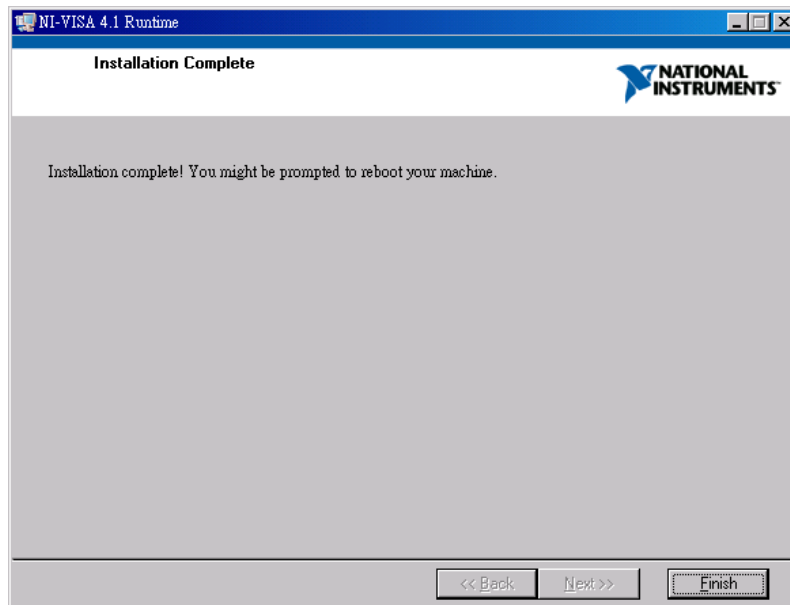

Figure 1-7 Installation Complete Screen
3. Follow the prompt message to click **Next >>** and complete the installation procedure as Figure 1-7.